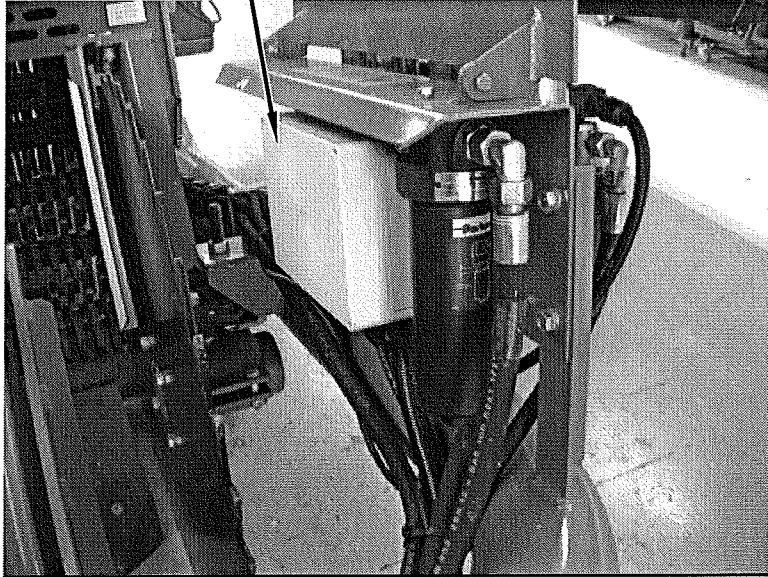

Fig 8.3
If after checking the position and operation of the sensors, the share operation is still incorrect, remove the cover from the electrical box mounted behind the tractor valve bank situated on the front left hand side of the machine (Fig 8.3 item 1).
If after checking the above points the self centring steering is still not working correctly, remove the cover from the electrical box mounted behind the tractor valve bank situated on the front left hand side of the machine. (Fig 8.3).